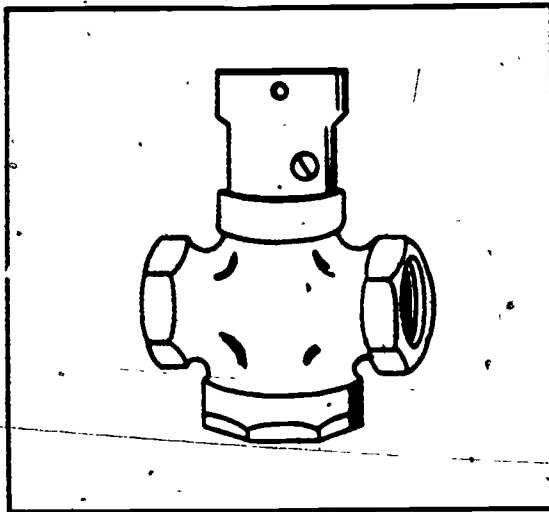

Figure 1-18. Curb stop.
**Curb stop.** After the water main has been tapped and the corporation stop installed, the next job is to locate and install the curb stop. The curb stop, shown in figure 1-18, is installed in an iron curb box at an accessible spot between the curb and the house, as shown in figure 1-16. The purpose of the curb stop is to provide an accessible shutoff for the water supply to the building from the outside.